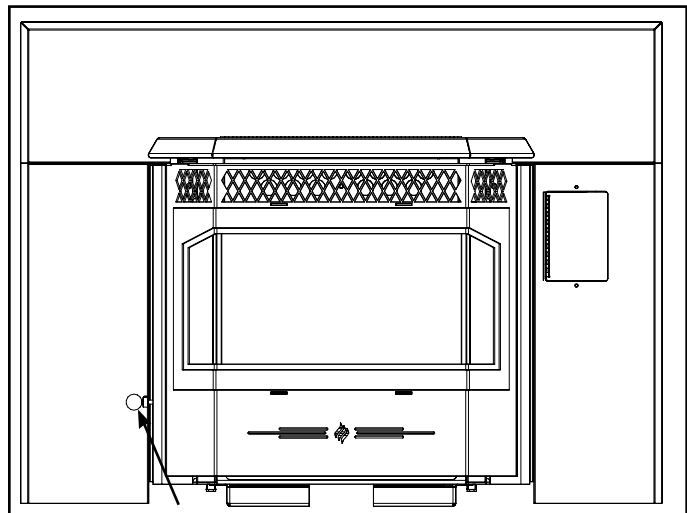

Figure 42: Damper Knob Location
**THE SLIDER / DAMPER HAS BEEN SET AT THE FACTORY. This is used to regulate the airflow through the pellet stove.** The slider damper knob is located on the left cabinet side (see Figure 42) when facing appliance from the front.